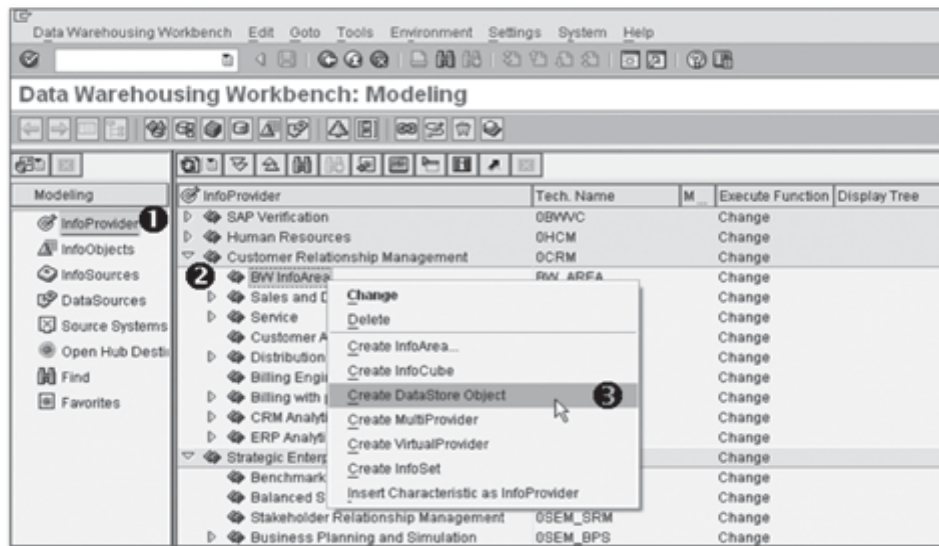

Figure 4.8 Creating a DSO
To begin, start the Data Warehousing Workbench (DWW) using Transaction RSA1. Under Modeling in the Navigation section, select InfoProvider, as shown in ❶ of Figure 4.8. DSOs are created under InfoArea. From the tree section of the screen, select the InfoArea to which you want to attach your DSO (❷). In this example, InfoArea BW_AREA is selected.